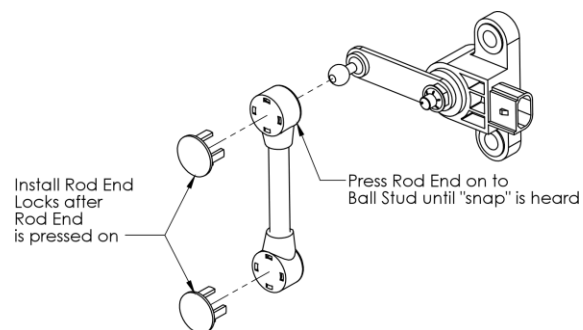

Figure 31. Height Sensor Plastic Linkage End Installation
3. Snap the Linkage Assemblies to the ball studs attached to the upper control arms and to the ball studs on the Height Sensor arms. Refer to **Figure 31** or **Figure 32** for linkage detail.